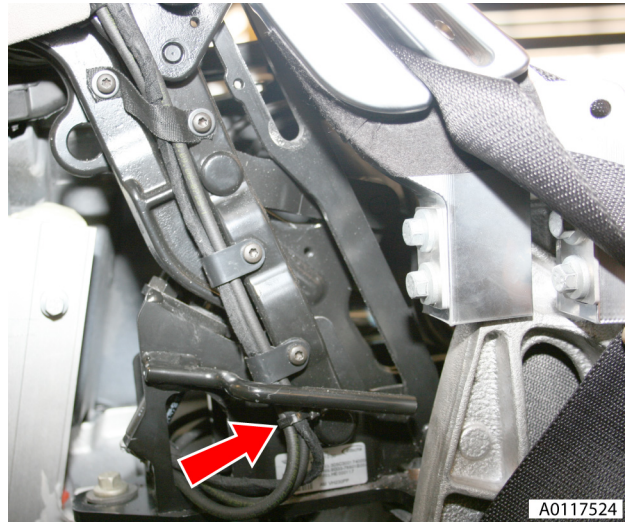

Fig. 8
18. Remove cable ties securing pipes/harness to roof frame (see Fig. 8).